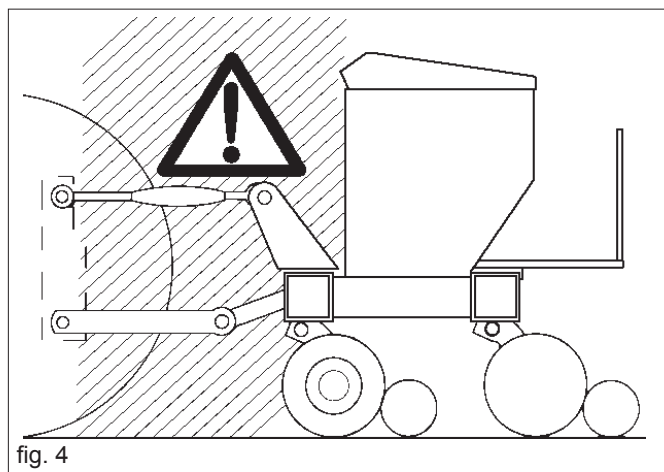

fig. 4
- 23) It is absolutely forbidden to stand between the tractor and linkage for manoeuvring the lifting controls from the outside (Fig. 4).
- 24) It is absolutely forbidden to stand in the space between the tractor and the equipment (Fig. 4) with the engine running and without the hand brake pulled and a block or stone placed under the wheels to block them.